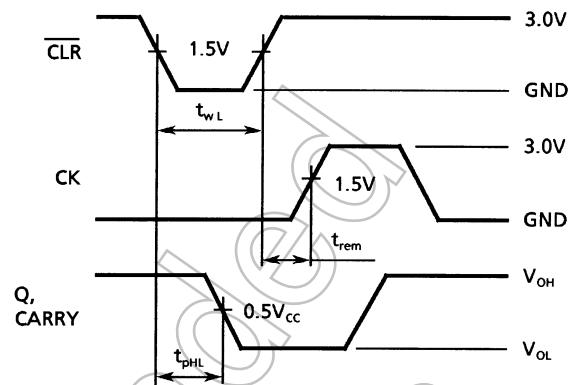

Figure 4
| Minimum pulse width ($\overline{\text{CLR}}$) (Note1) | t _w (L) | Figure 4 | 5.0 ± 0.5 | 5.0 | 5.0 | ns | |
| Minimum removal time ($\overline{\text{CLR}}$) (Note 1) | t _{rem} | Figure 4 | 5.0 ± 0.5 | 1.0 | 1.0 | ns | |
| Propagation delay time (Note 2) (CLR-Q) | t _{pHL} | Figure 4 | 5.0 ± 0.5 | — | 6.3 | 10.0 | 1.0 | 11.5 | ns |
| Propagation delay time (Note 2) (CLR-CARRY) | t _{pHL} | Figure 4 | 5.0 ± 0.5 | — | 7.7 | 12.3 | 1.0 | 14.0 | ns |